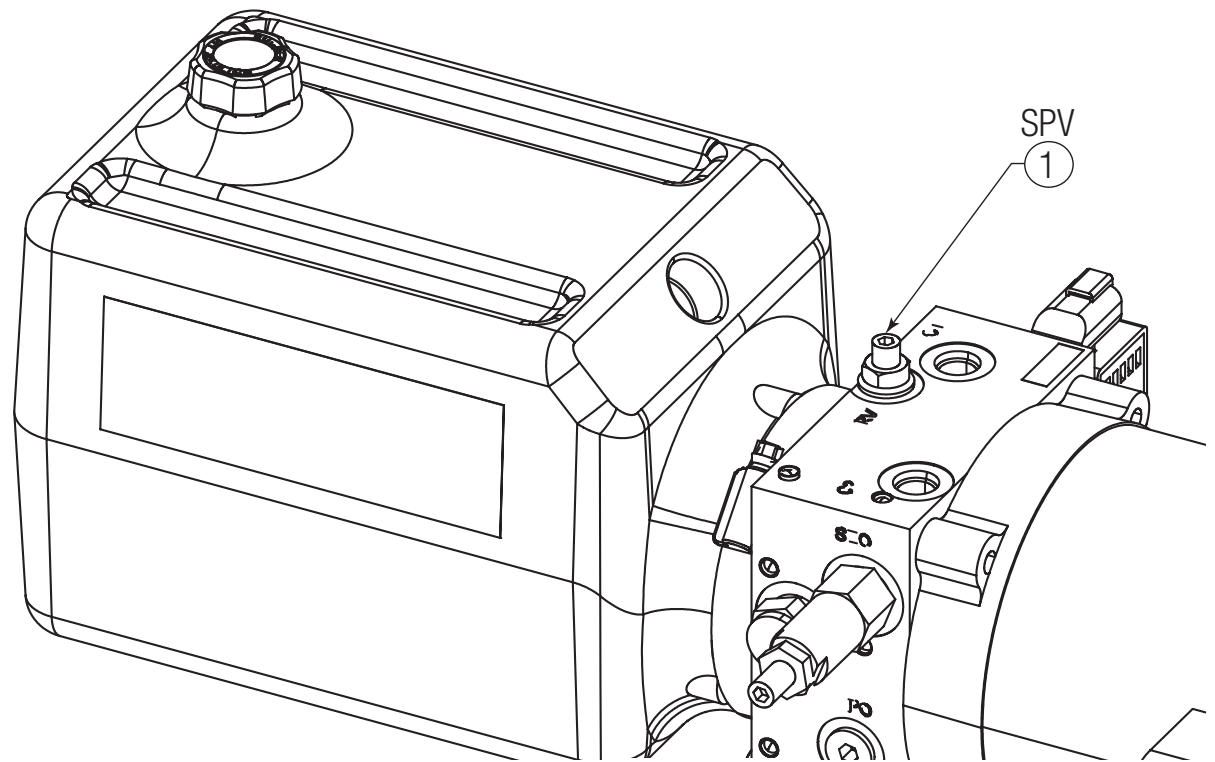

Figure 26
The deck raise speed is hydraulically-controlled by the System Pressure Valve (1). The location of the SPV on the power unit manifold is shown in **Figure 26**. Pump pressure exceeding the setting of SPV is bypassed back to tank. This valve is factory set to 2 turns out (counter-clockwise) from the fully in position.